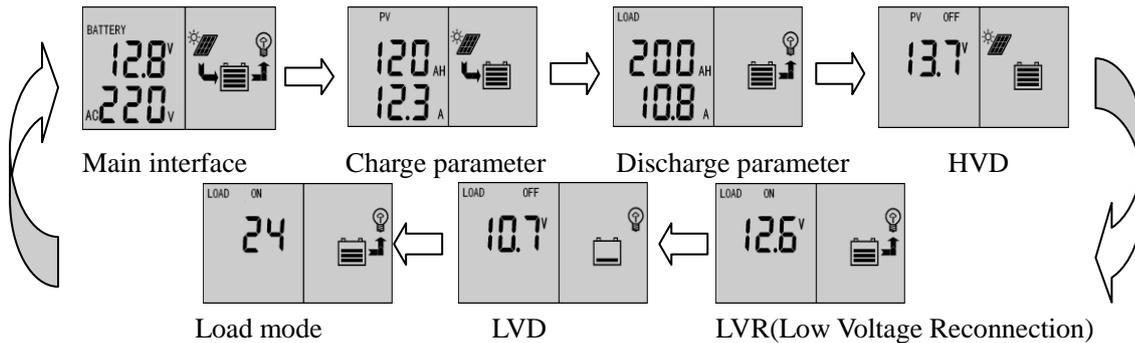

Figure 1
-  Interface loop switch button, use the button to cycle between pages in each switch cycle sequence shown in (figure 1)